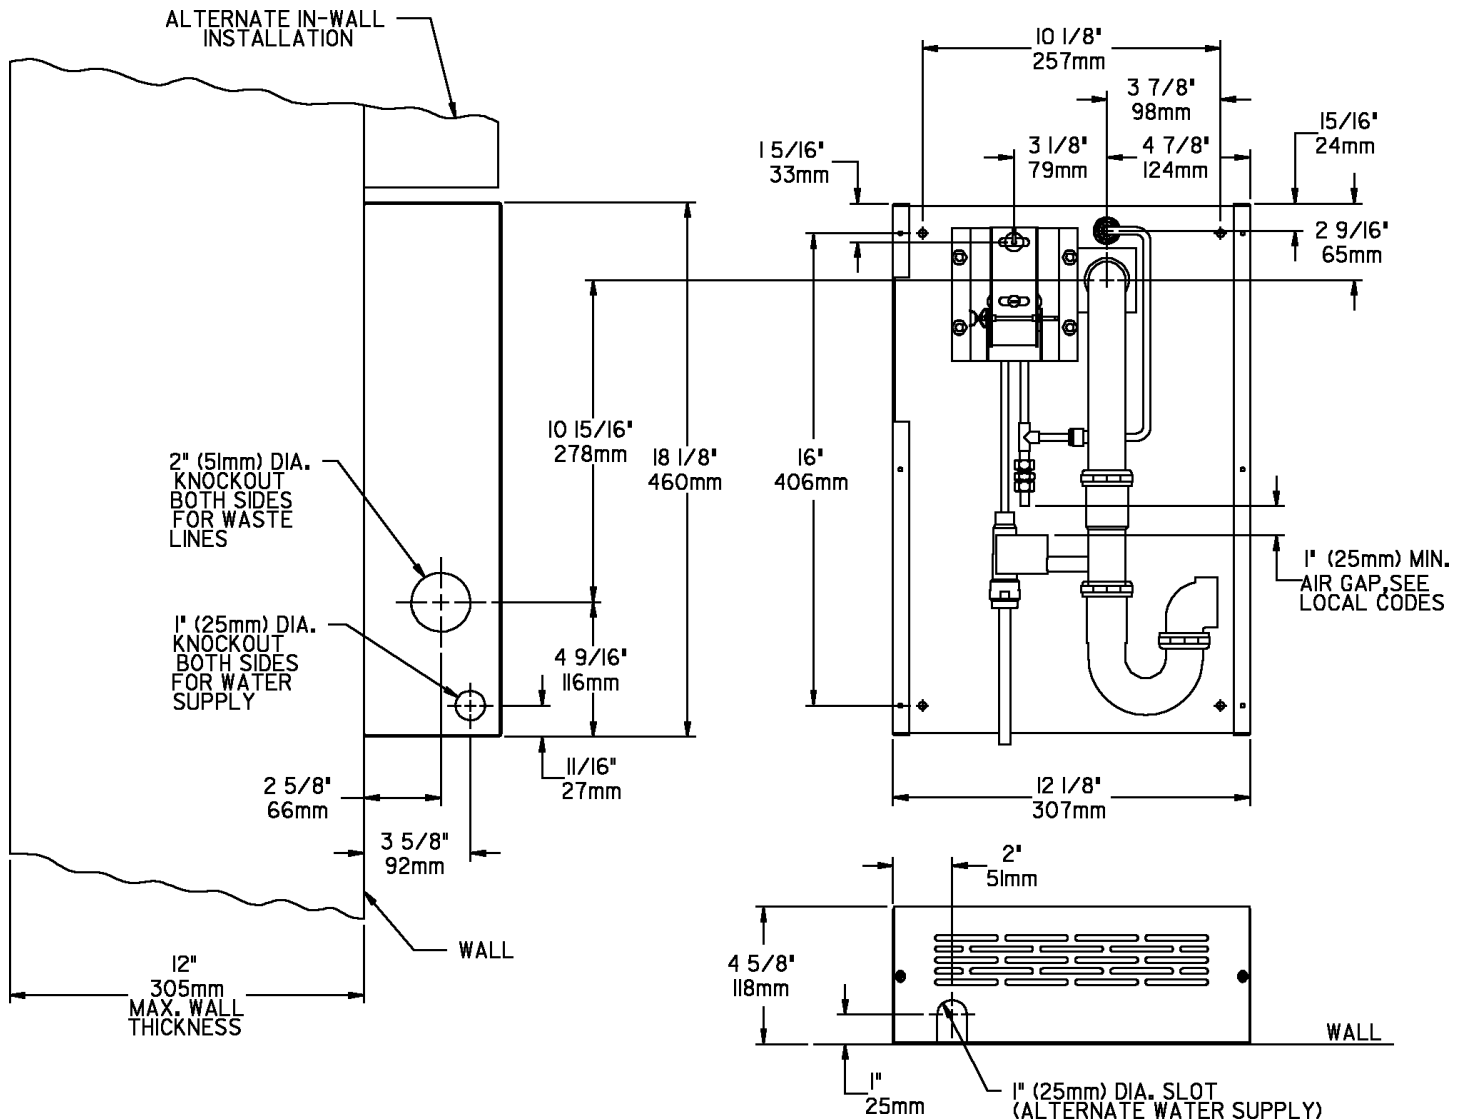

FIG. 1
5. Connect drain and water supply lines to the freeze resistant fountain. Refer to Figure 1 for component positions. Inline strainer must be used on the inlet water line.